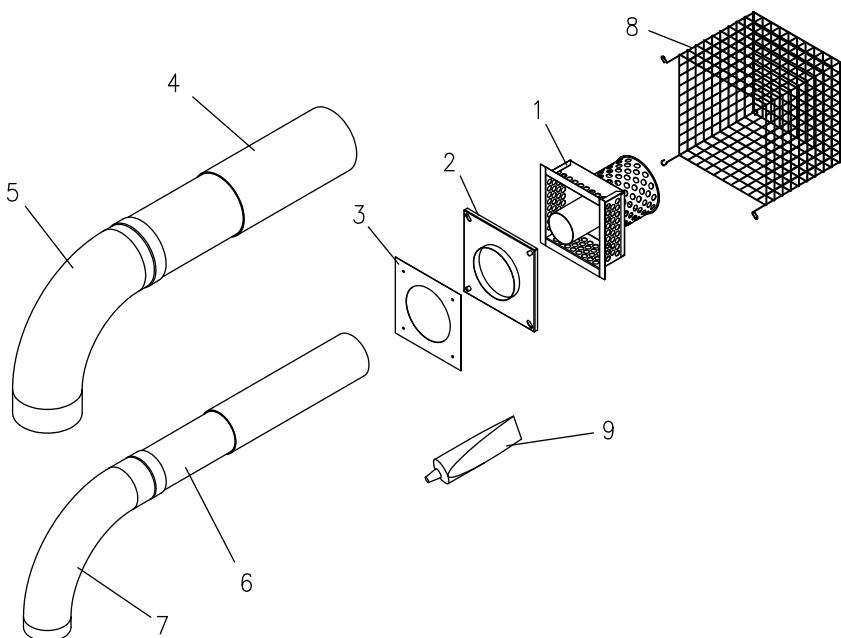

**Figure 12**
12. Mark the mounting screw hole locations for the backing plate. Rotate the backing plate in order to gain access to the markings. With a 3/16 inch diameter drill bit (not supplied), drill holes for the supplied wall anchors. Install the wall anchors and secure the backing plate to the wall with four (4) #10 x 1 inch screws (supplied) (See Figure 12). Note: Certain construction of walls may require the use of a different type of anchoring means than supplied.